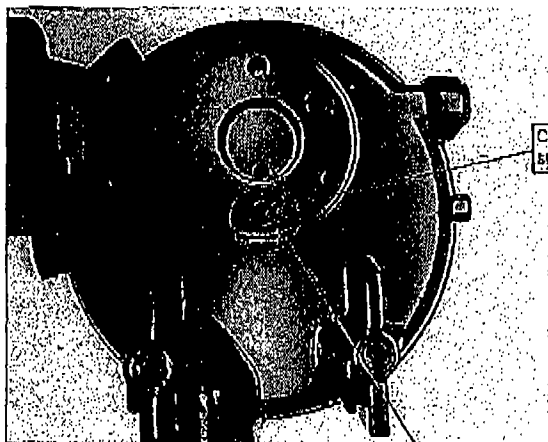
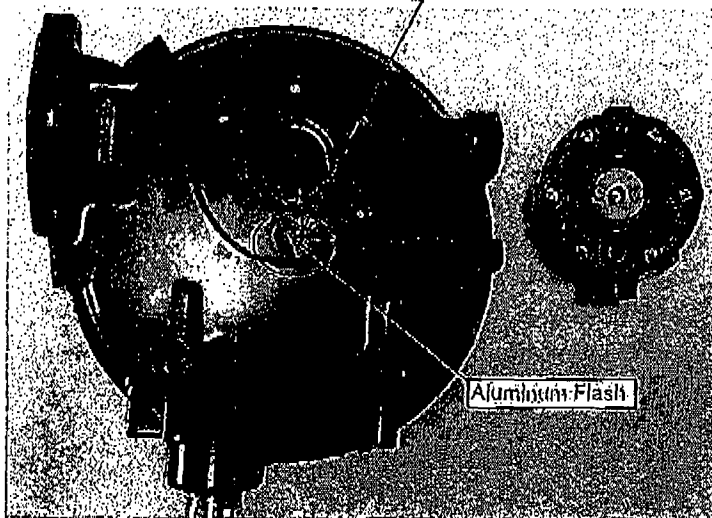

Figure 1
Figure 3
2. Inspect the case vent passage (see figures 1 - 3). The passage should be open and the interior surface of the flash suppressor should be visible through the hole (see figures 1 and 2). If the passage is obstructed with aluminum flash, the passage will appear to be a blind hole (see figure 3).